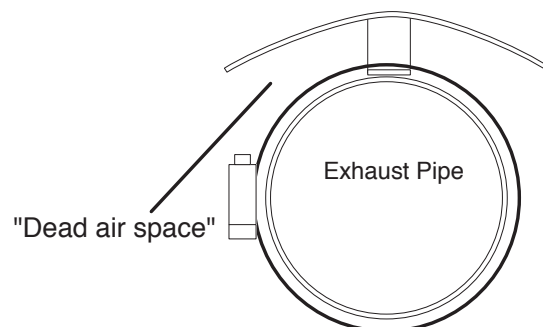

fig. 19
4. Bend the heat shield to form it around the tail pipe. Be sure to maintain a “dead air” space of 1/2” to 1” between the tail pipe and the heat shield (Fig. 19).